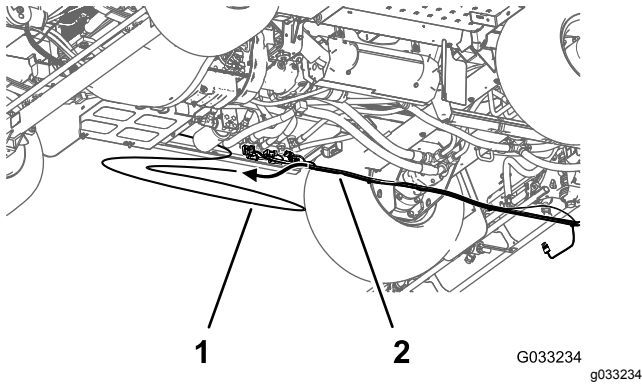

Figure 53
- Remove the pressure-sense tube for the dash gauge from the rear wire harness of the machine (Figure 53).